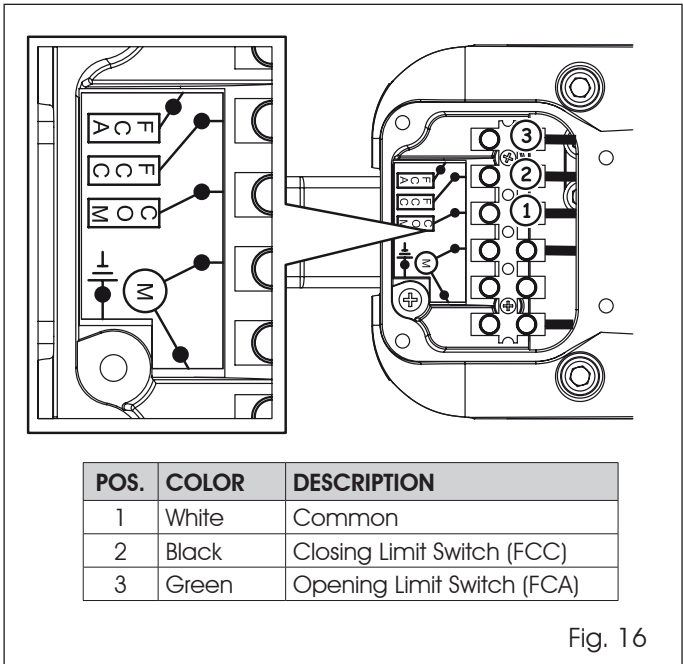

Fig. 16
- 3. Thread the three conductor cable through the strain relief and connect the wires as shown in Fig.16.